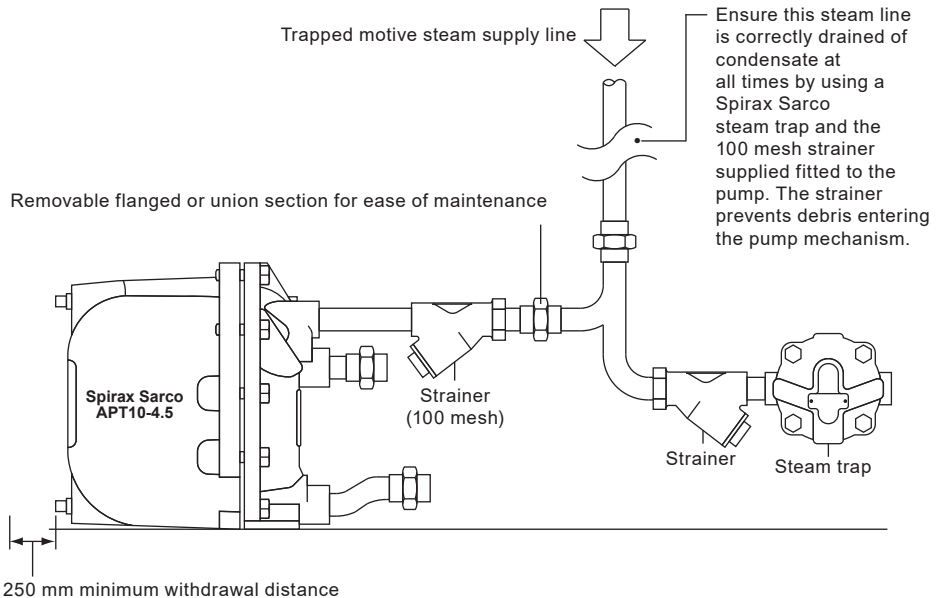

Fig. 4 Suggested coupling of motive supply and exhaust lines
3.3 Connections (refer to installation diagram Fig. 4 opposite)
- 4.1 After ensuring inlet and outlet pipe connections and steam motive/exhaust connections are coupled in accordance with Fig.4 and 5, slowly open motive steam inlet line to supply pressure to the APT10-4.5. Ensure exhaust/balance line is open and not restricted in any way.